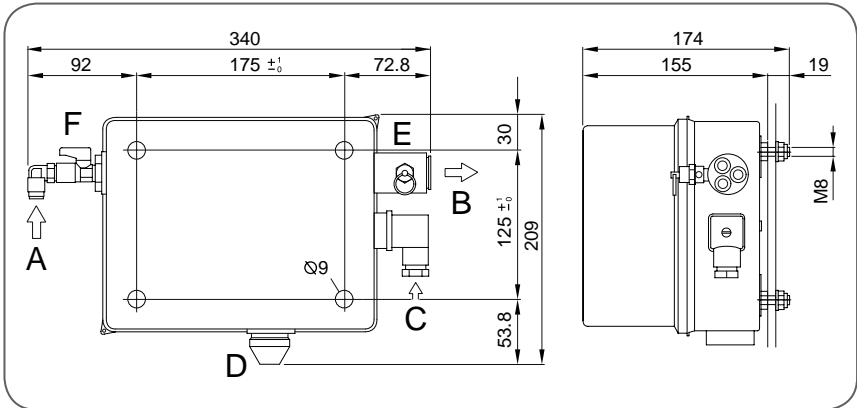

Fig. 9 - Assembling the control unit
Drill the fixing holes in accordance with the drawing at the assembly location of the control box see ► Fig. 9.
- Always rotate the shut-off valve *see ► Fig. 9* (item F) before commencing work on the system or wheel ends and release the air at the overpressure valve *see ► Fig. 9* (item E).
1. Fit an outlet with manometer to the 3-way compressed-air outlet see ► *Fig. 9, (B)*.
3. Open the shut-off valve see ► *Fig. 9 (item F)*.
- Always rotate the shut-off valve see ► *Fig. 9 (item F)* before commencing work on the system or wheel ends and release the air at the overpressure valve see ► *Fig. 9 (item E)*.